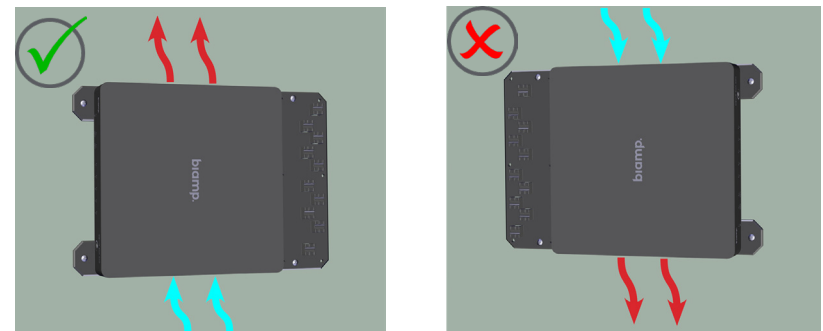

Figure 3. - Proper Airflow
2. Position the SCX for optimal airflow as shown in Figure 3.